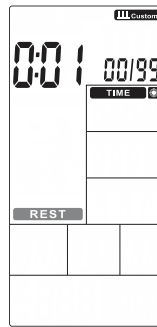

FIGURE 34
3. TIME keeps lighting up, REST will flash, press UP or DOWN to set rest time 0:01 ~ 9:59 circularly (Figure 34). Press ENTER to confirm along with the buzzer beeps 1s and INTERVAL CUSTOM keeps lighting up.